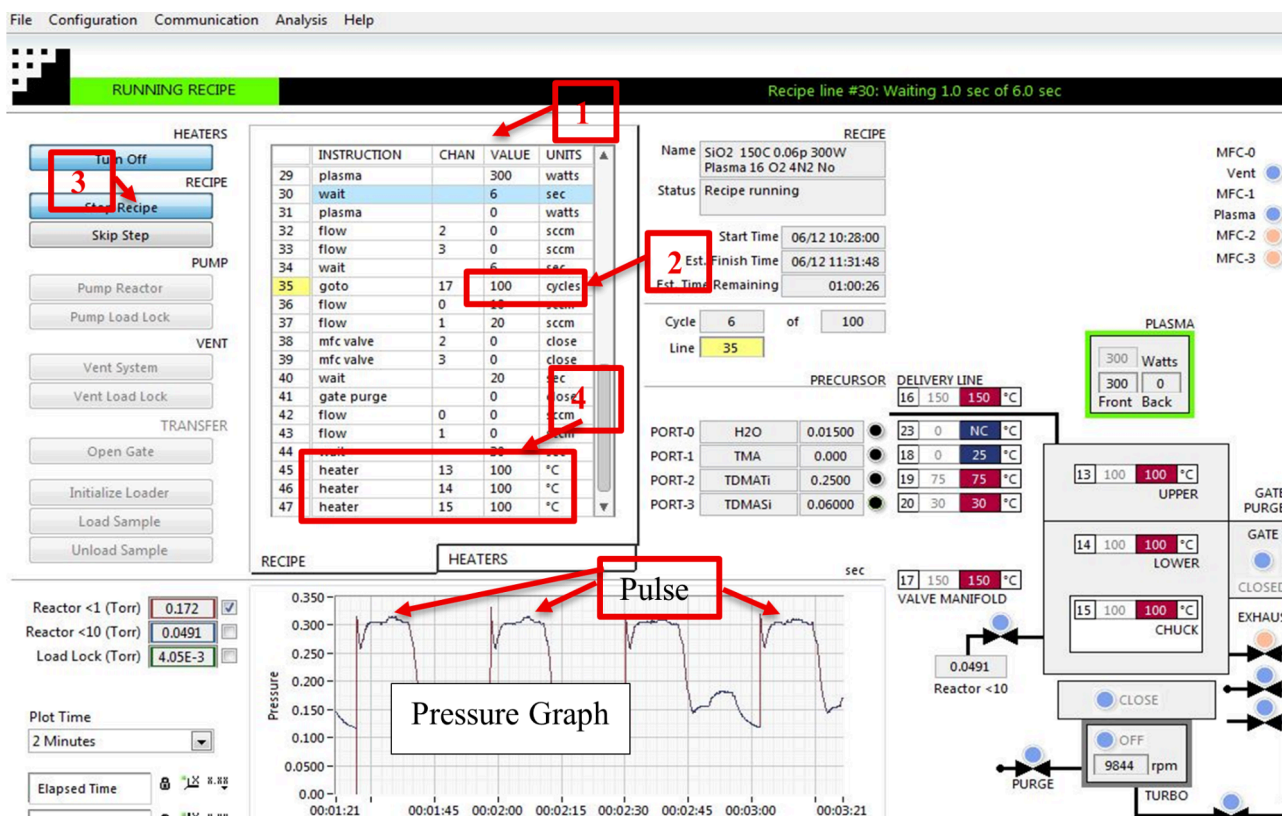

Figure 7 Loading recipe and modifying parameters
- Right clicking anywhere in the CURRENT RECIPE window (see figure 7), [step 1]